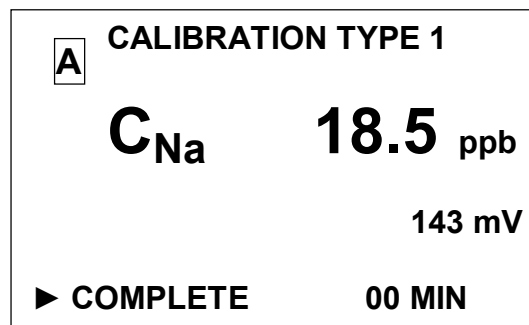

Fig. 2.24
- 7 Move pointer "▶" to **TYPE 1** line and press "menu enter" button and the display shown in Fig. 2.24 shall come up which shall show the solution current  $C_{Na}$  measured value with previous calibrated factors.